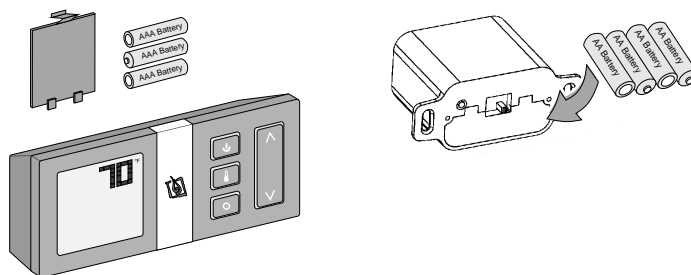

Figure 17
Install four AA batteries into the battery holder (see Figure 17 below). These batteries act as a power backup in case the household (AC) current goes out.